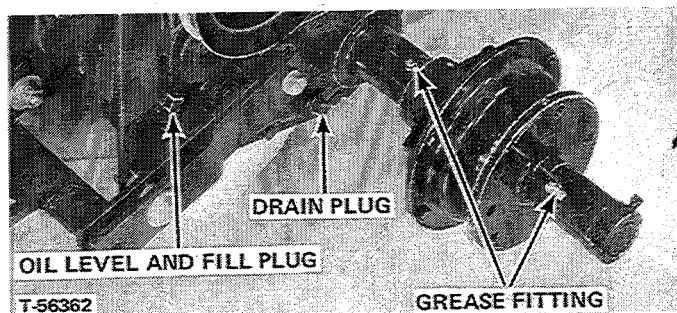

FIGURE 18
1. Transmission oil shall be maintained up to the bottom of the oil level and fill plug (Figure 18). Fill with Allis-Chalmers Gear Lube 715 or good quality SAE 90 transmission oil. Check every 25 hours of operating time.
1. Transmission oil level shall be maintained up to the bottom of the oil level and fill plug (Figure 18). Fill with Allis-Chalmers gear lube 715 or good quality SAE 90 transmission oil. Check every 25 hours of operating time.